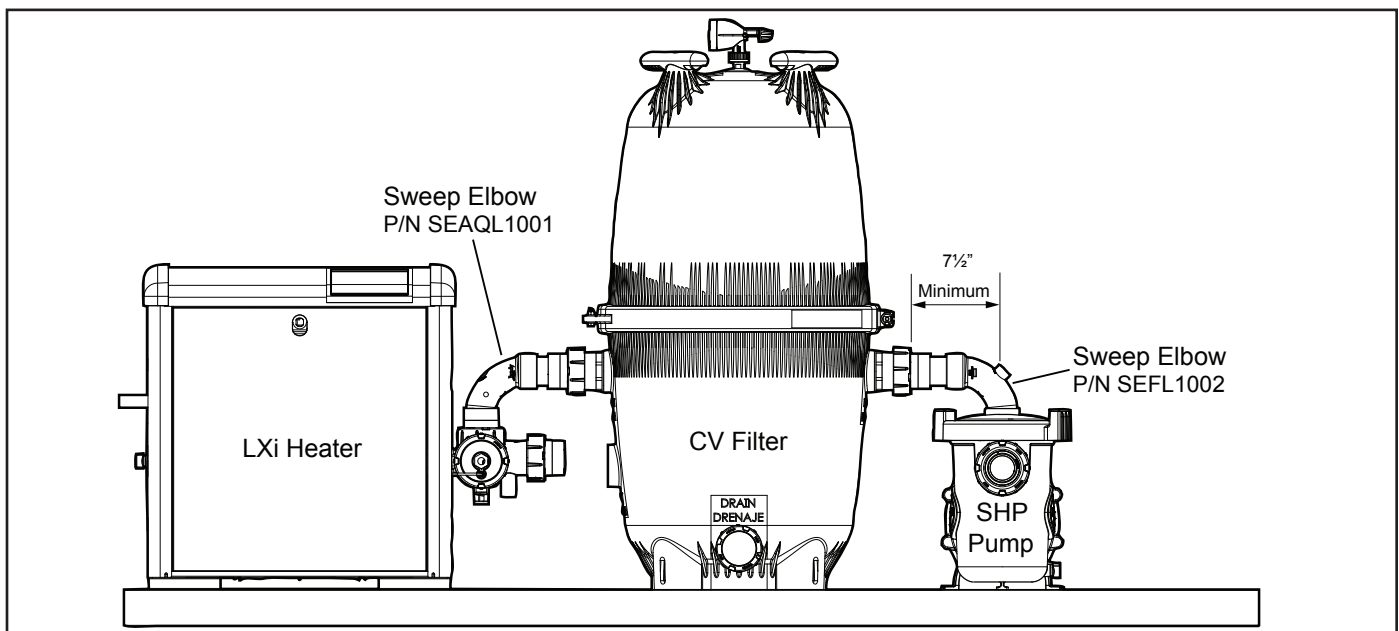

Figure 8. LXi™ Heater, CV Filter and SHP Pump Sweep Elbow Installation
- b. Be sure there is a minimum distance of 7½ inches between the center of the pump outlet port and the filter inlet bulkhead to accommodate the sweep elbow(s). See Figure 8 for recommended installation configuration.
NOTE The SHP pump shown in Figure 8 is for reference only. The Jandy Pro sweep elbow also works with the MHP and PHP series pumps.